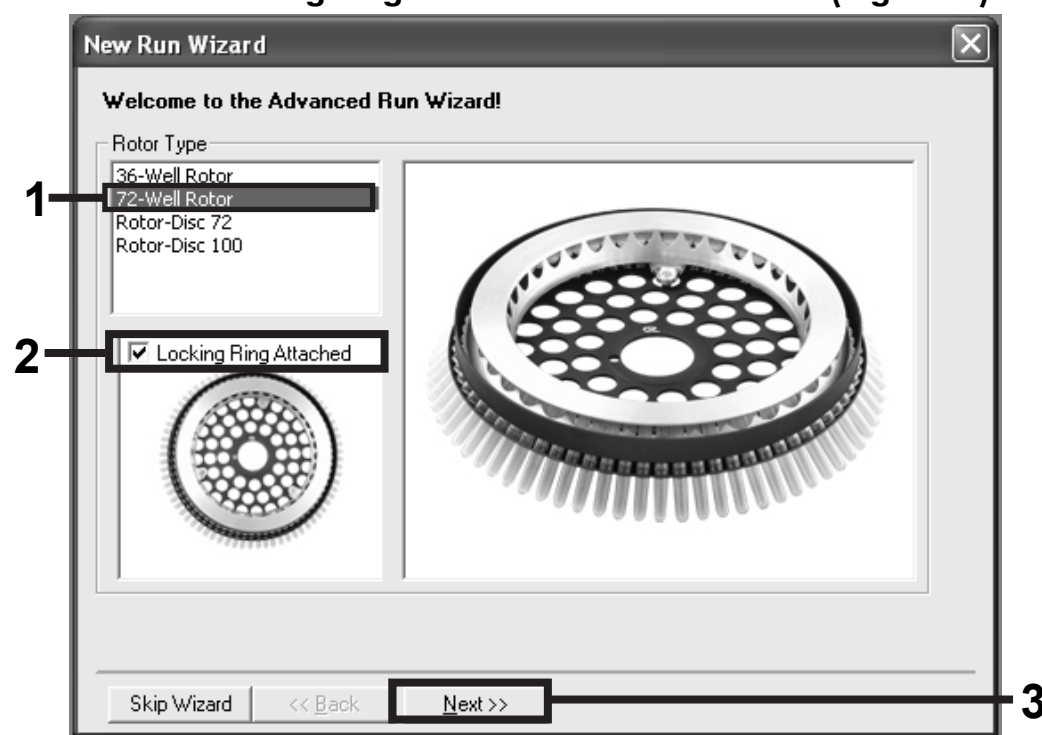

Figure 9. The “New Run Wizard” dialog box.
10. Ensure that the correct rotor is selected, and check the box to confirm that the locking ring is attached. Click “Next” (Figure 9).